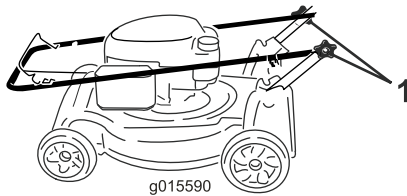

Figure 3
1. Loosen the handle knobs (Figure 3).
3. Tighten the handle knobs firmly by hand (Figure 3).